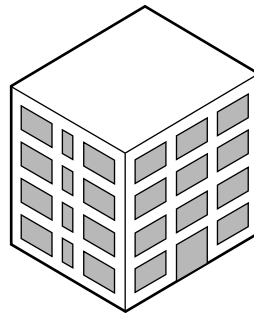

Fig. 5
- 2 Fig. 5 shows an architectural model of an office block. The model is made from foamboard.